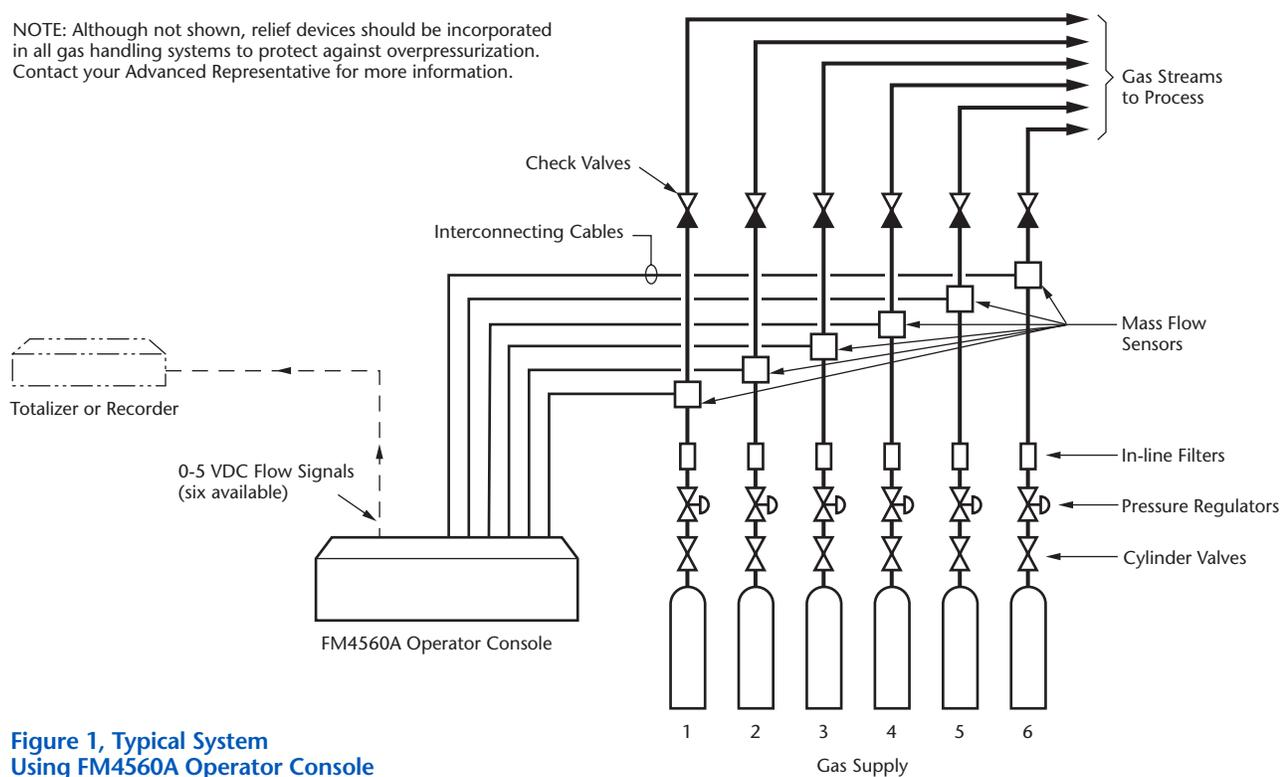

Figure 1, Typical System Using FM4560A Operator Console for Flow Measurement
These systems (illustrated in Figures 1–4) each consist of an Operator Console which is electronically coupled to one or more Mass Flow Sensors and/or Mass Flow Control Modules.
1. Model FM4560A is used when only flow measurement is desired. As illustrated in Figure 1, it can operate with up to six separate Mass Flow Sensors, allowing simultaneous measurement of six gas streams. Since this console does not offer a command signal, it cannot be used with Mass Flow Control Modules.